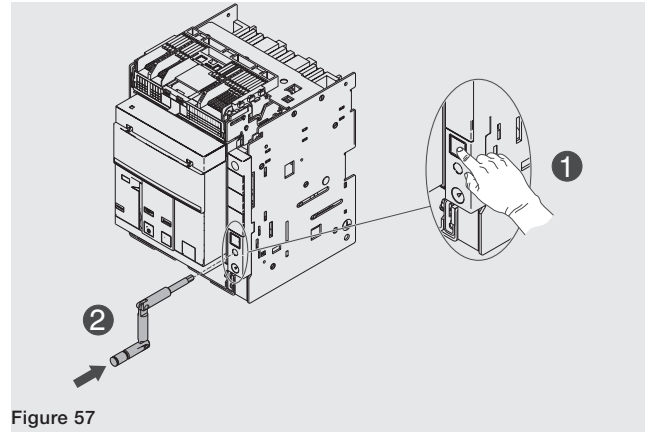

Figure 57
5. Press the lock pushbutton and fit the handle into the moving part. In this phase, the moving part will still be in the **DISCONNECT** position. See Figure 57.